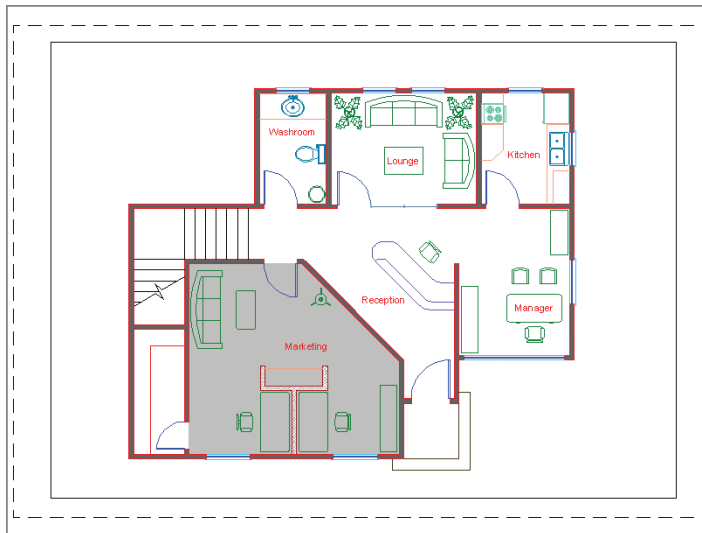

FIGURE 14.29 Configuring Layout1 to display the drawing in 3/8 scale
7. Select the viewport, and stretch its grips to reveal and center the entire building, as shown in Figure 14.29. You might need to move the viewport to center the building on the page, depending on how you stretch the grips.